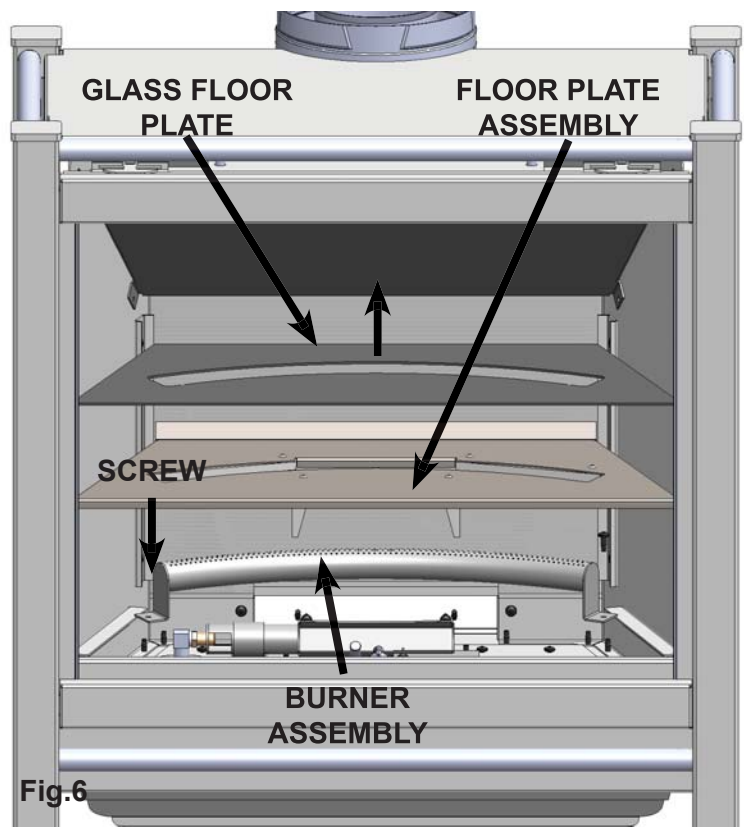

Fig.6
3. Remove the glass floor plate and set it aside. (**Fig.6**)
4. Remove the floor plate assembly and set it aside. (**Fig.6**)
5. Remove the screw from the left hand side of the burner assembly. (**Fig.6**)